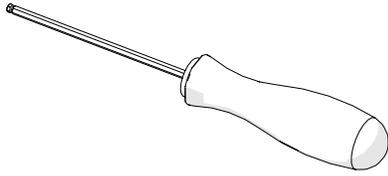
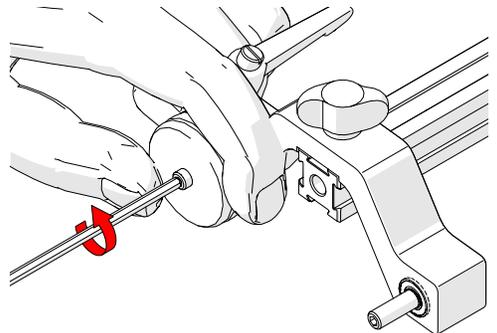

Fig. 12 - 3 mm hex driver
Fig. 24 - Wheel installation
The 3 mm hex driver (*Fig. 12*) is sufficient for all typical operations and adjustments of the **STIX**.
3. Grip the magnetic wheel by hand, and using the supplied 3 mm hex driver (Fig. 12), tighten it to the axle (Fig. 24).